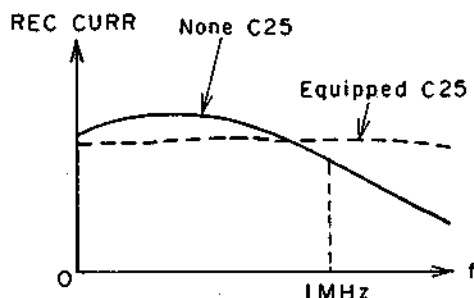

Fig. 91
The chroma is outputted from AN6360 ⑦ and the PB enters HA11703 ⑮ at VR22 and is mixed with Y. REC passes the traps of C136, L32 and L4, C26 and goes to REC AMP for mixing. These traps are intended to prevent the 4.43 MHz from returning to the pre-amplifier through the REC AMP during PB. The chroma recording current is shown in Fig. 91, and it is corrected by C25 (30p) to be flat.